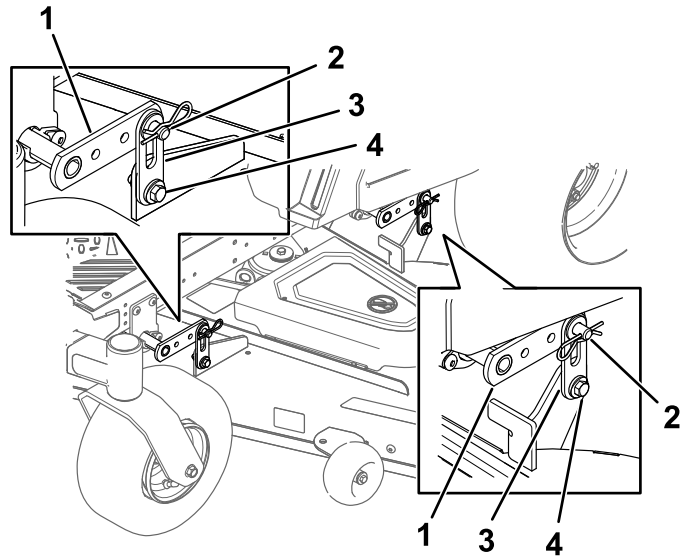

Figure 59
5. Loosen the adjustment bolts on all 4 corners so that the deck is sitting securely on all 4 blocks (Figure 59).
6. Ensure that the deck pins are at the top of the slot in the deck hangers (Figure 59).
7. Tighten the 4 adjustment bolts (Figure 59).